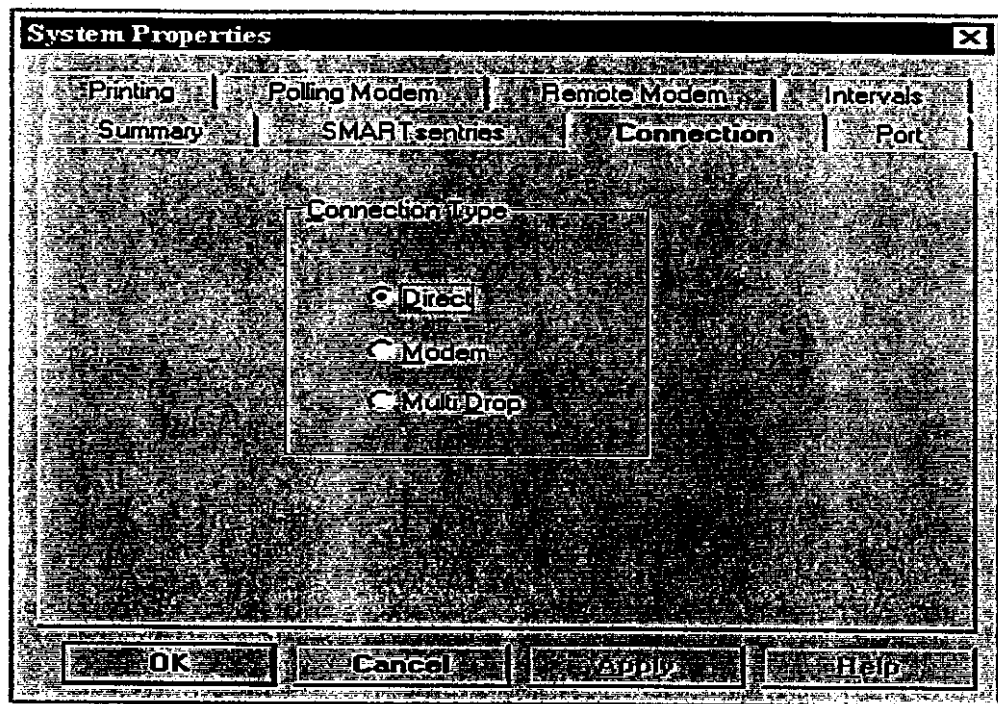

Figure 7 System Properties (Connection Tab Group)
2.2.3.12.2.1 In the **Connection** tab group select Modem (see Figure 7).